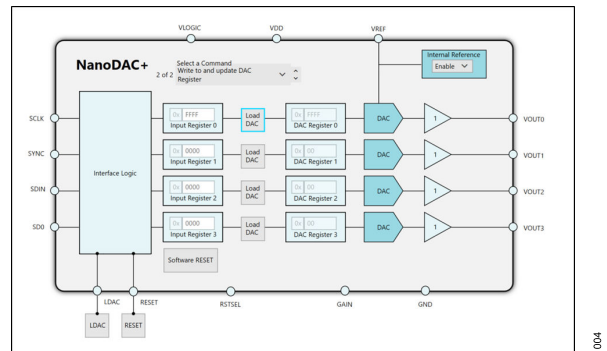

Figure 4. Chip Block Diagram View of the AD5675R or AD5676R
4. Double-click the **AD5675R** or **AD5676R** chip to access the chip view as shown in Figure 4. This view provides a basic representation of functionality of the board. See Figure 5 and Table 1 for the details on the main function blocks of the board.